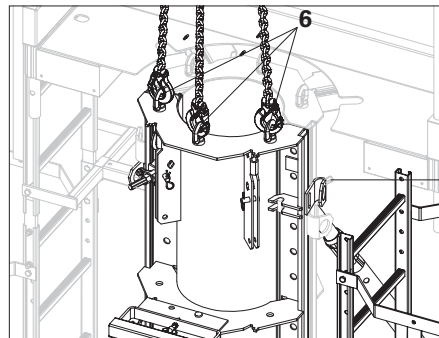

Fig. A5.01.1
1. Attach 3-sling lifting gear to the ring bolts (6). (Fig. A5.01.1)